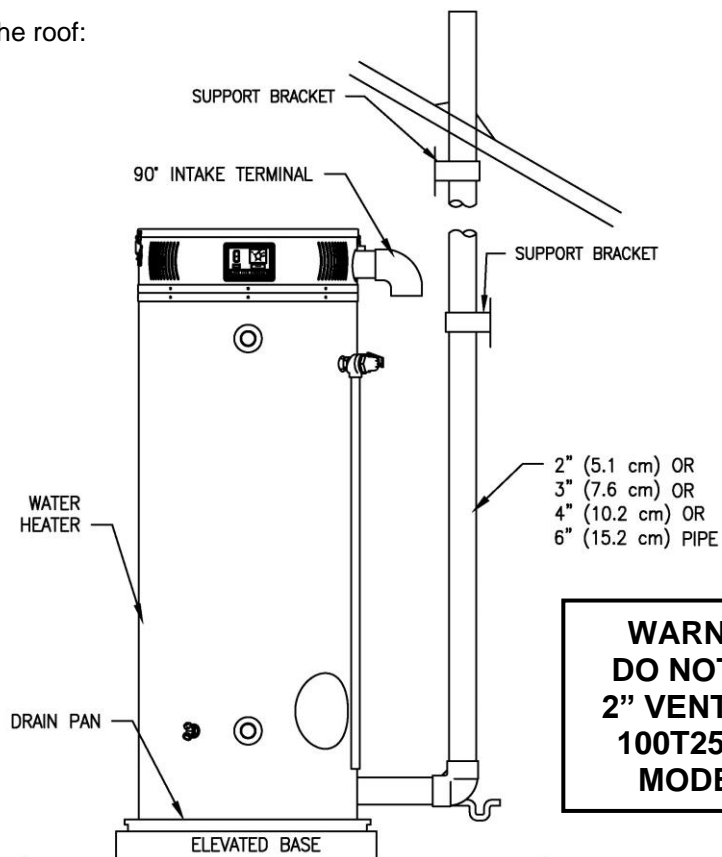

Figure 16 - Typical Vertical Power Vent System Installation
2. Install the exhaust vent and air intake plastic pipes as shown in Figure 16. Make sure that the installation meets the local codes and/or The National Fuel Gas Code ANSI Z223.1 (Latest Edition) or CGA/CAN B149 Installation Code.